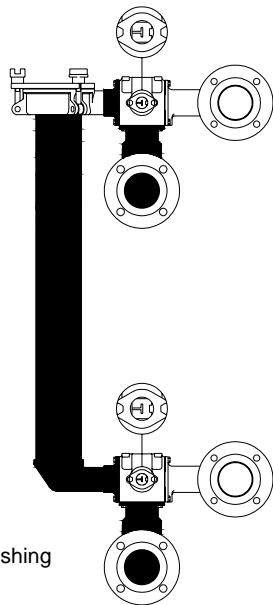

Figure 6: External Backwashing Backwash Mode
Backwash: Backwash flow is achieved by turning the (2) 3-way valves on the first station 90 degrees counter-clockwise so that the inlet and outlet are closed and the filter body is open to the drain and backwash headers (the other stations continue filtering). The external backwashing fluid is directed through the first station in the reverse direction, forcing backwashing fluid thru filter screen from the inside-out and pushing the solids down the drain (Figure 6). **WARNING: For proper cleaning, the backwash fluid must be at least as clean as the retention level of the filter screens.** Failure to observe this warning will cause unwanted solids higher than the rated retention of the screens to be pushed downstream once the filter is back in the on stream